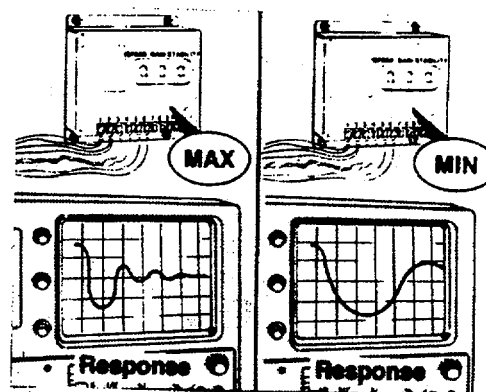

FIGURE 3-23. Optimum
- (c) Optimum adjustment.(FIGURE 3-23)